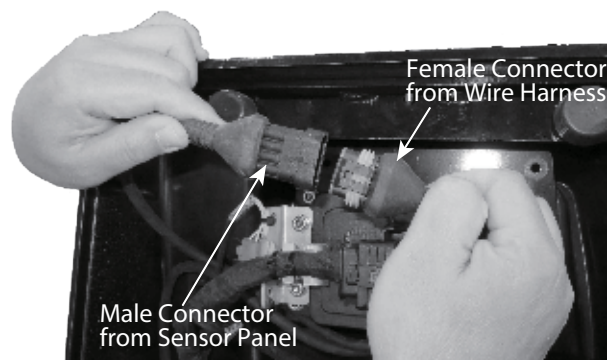

Figure 22. Sensor Cable Connections
- Connect the male connector extending from the sensor panel to the female connector of the wire harness (P/N 467358210). See Figure 22.